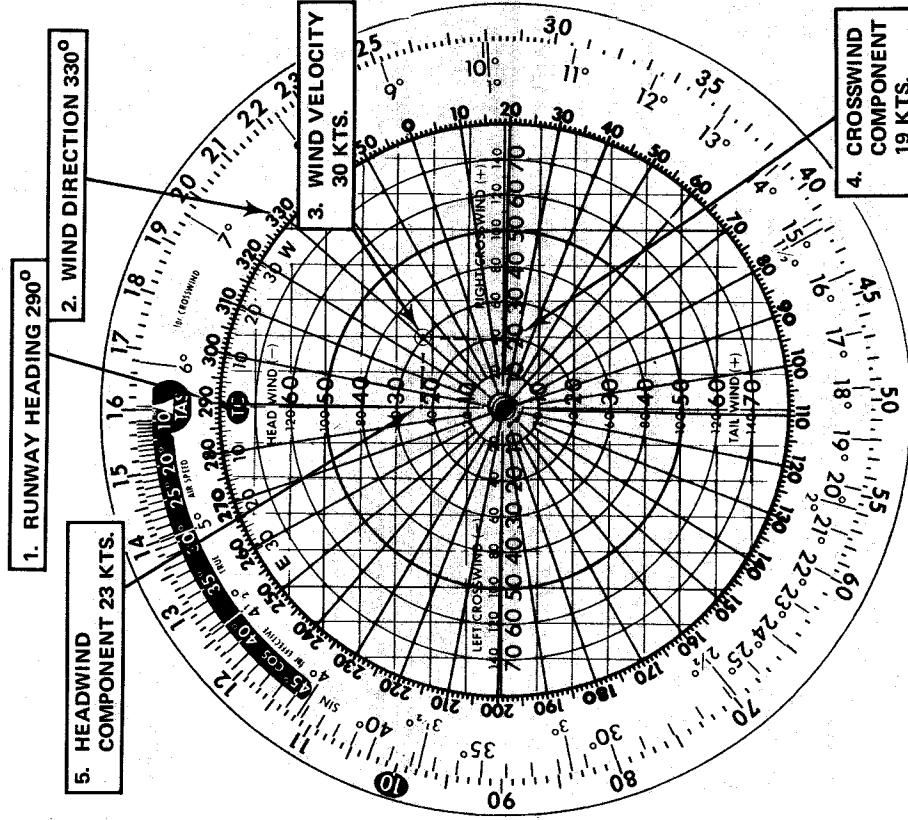

Fig. 37
- Set runway heading over the true course (TC) as shown in figure 37.